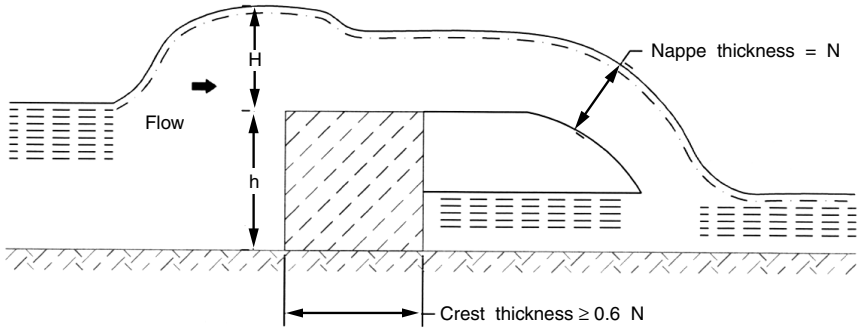

FIGURE W-2 Weir (broad crested).
**Weighting coefficient (or weighting factor)** (1) A coefficient or factor used in numerical modeling to ensure stability of the solutions by determining the exact position between two adjacent timelines. *See* flow weighting; time-weighting factor. (2) A dimensionless constant from 0 to 0.5 used in the Muskingum flood routing method.
**Weir** (1) A wall or plate placed in an open channel to measure the flow of water. (2) A wall or obstruction used to control flow from settling tanks and clarifiers to ensure a uniform flowrate and avoid short circuits (EPA-94/04). (3) Any natural or man-made regular obstruction over which flow occurs. Typically, while flowing over the weir, water passes from subcritical to critical conditions, and the weir equation describes the relationship between the subcritical depth and the critical flow. The **crest** of the weir is the bottom edge of the opening over which water flows. The **crest height  $h$**  is its distance to the bottom of the body of water, and the **crest width** or **length  $L$**  is the width or length of the weir. The **nappe** is the overfalling stream of water (from the French term for sheet). The **weir head  $H$**  is the height of the pool above the crest and is measured upstream where it is unaffected by curvature of the water surface. *See* Figures W-2 through W-12. Weirs are inexpensive, easy to install, and easy to use, as compared to other means of flow measurement. However, they cause high headlosses, require periodic cleaning, and are not always accurate, particularly when affected by excessive approach velocities and debris. *See* the following types of weir: broad-crested; Cipolletti; clarifier; compound; contracted; crib; Crump; diverting; division; drowned; effluent; flow equalization; free; friction; influent; leaping; log; long based; movable; needle; outlet; overfall; overflow; parabolic; parallel finger; peripheral; proportional; proportional flow; rectangular; Rettger; rolling-up curtain; rounded crest; round nosed; separating; serpentine; sharp crested; shutter; side flow; sliding panel; straight edge; submerged; suppressed; suspended